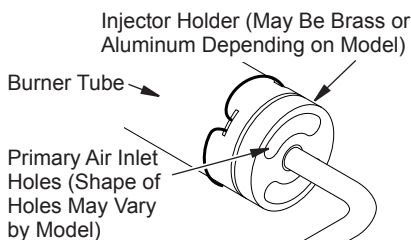

Figure 24 - Injector Holder On Outlet Burner Tube
2. Inspect burner, pilot and primary air inlet holes on injector holder for dust and dirt (see Figure 24).